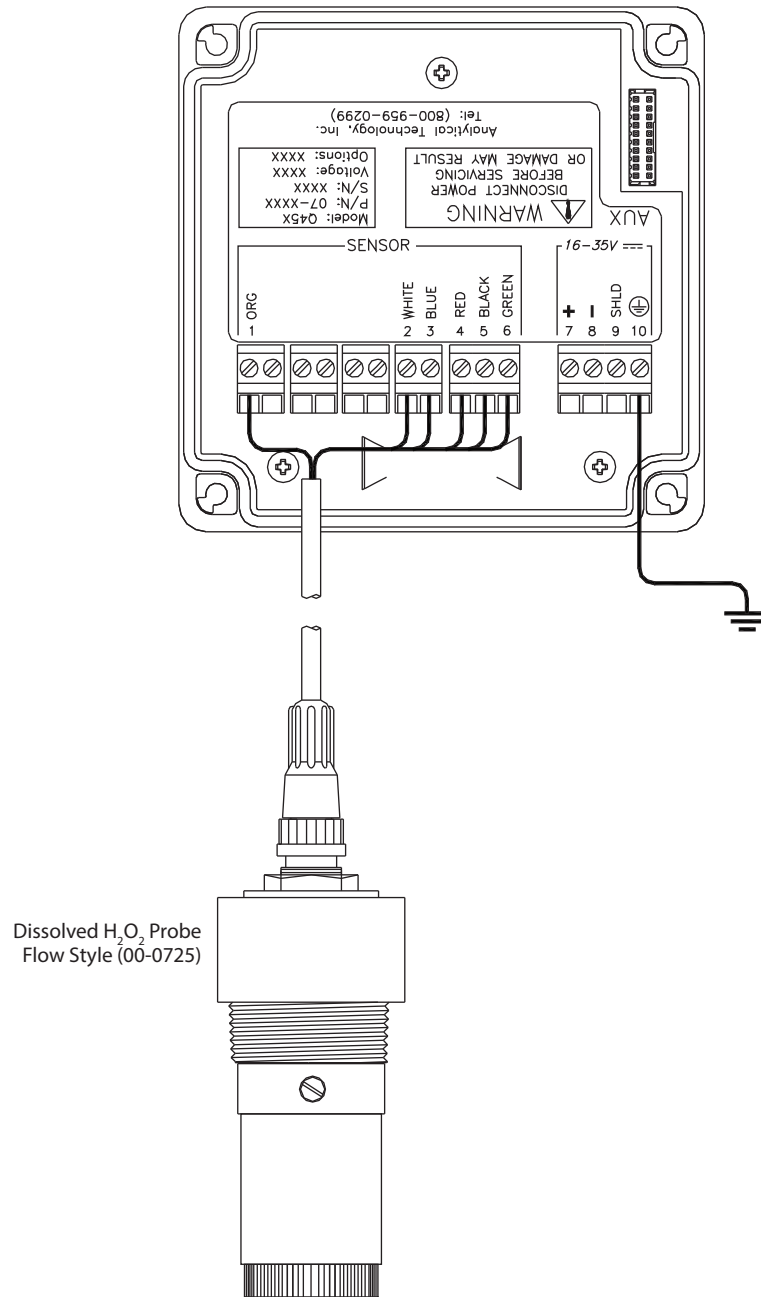

Figure 9: Sensor connection
1. Use wiring practices that conform to all national, state and local electrical codes. For proper safety as well as stable measuring performance, it is important that the earth ground connection be made to a solid ground point from Terminal 10 shown in Figure 9 on page 15.
Sensor connections are made in accordance with Figure 9 on page 15. The sensor cable can be routed into the enclosure through one of the cord grips supplied with the unit. Routing sensor wiring through conduit is only recommended if a junction box is used. Some loose cable is needed near the installation point so that the sensor can be inserted and removed easily from the flowcell.